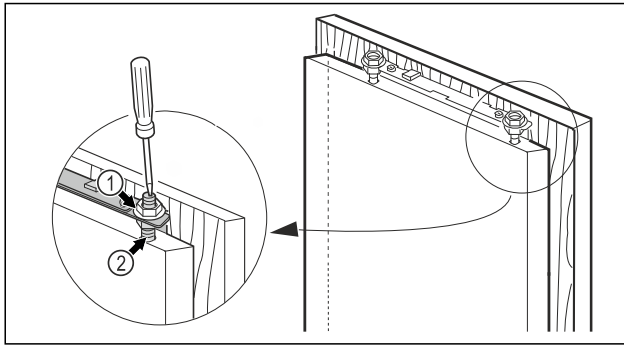

Fig. 49
- Tighten the lock nuts Fig. 49 (1) with a hexagon spanner 13, stabilising the adjusting bolt Fig. 49 (2) with a screwdriver.